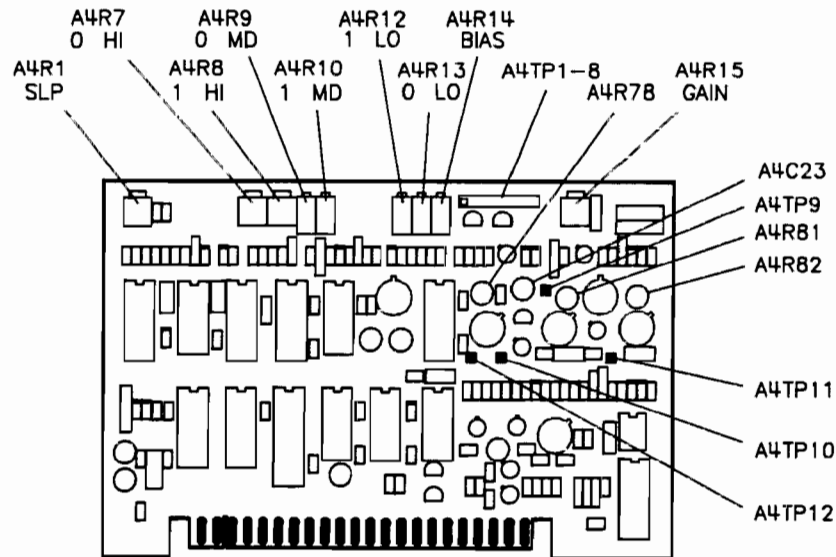

Figure 5-30. ALC Adjustment Locations
2. Float the ground on the digital voltmeter and measure the voltage between A4TP9 and A4TP10. Refer to Figure 5-30 for adjustment locations. Adjust A4R81 (OFS 1) for 0.000 ± 0.001 VDC.